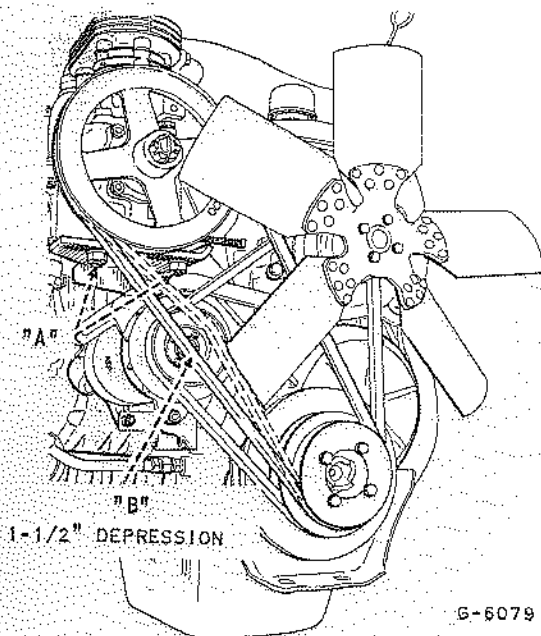
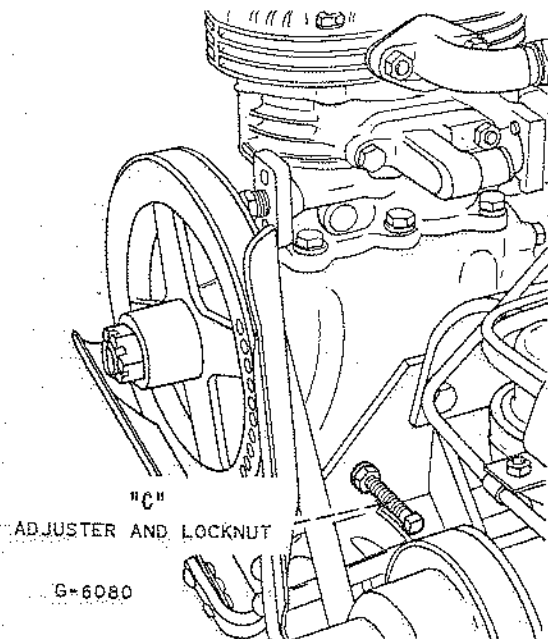

Fig. 19 - Compressor belt adjustment
Fig. 20 - Compressor belt adjuster
2. To adjust the belt refer to Figs. 19 and 20. Loosen four nuts "A" which secure the compressor to its bracket, and the locknut of the adjuster "C" Fig. 20. Turn the adjuster as necessary to obtain the recommended depression of 1-1/2 inches at point "B" in Fig. 19. Check to ensure that the pulleys are in alignment and retighten all nuts.